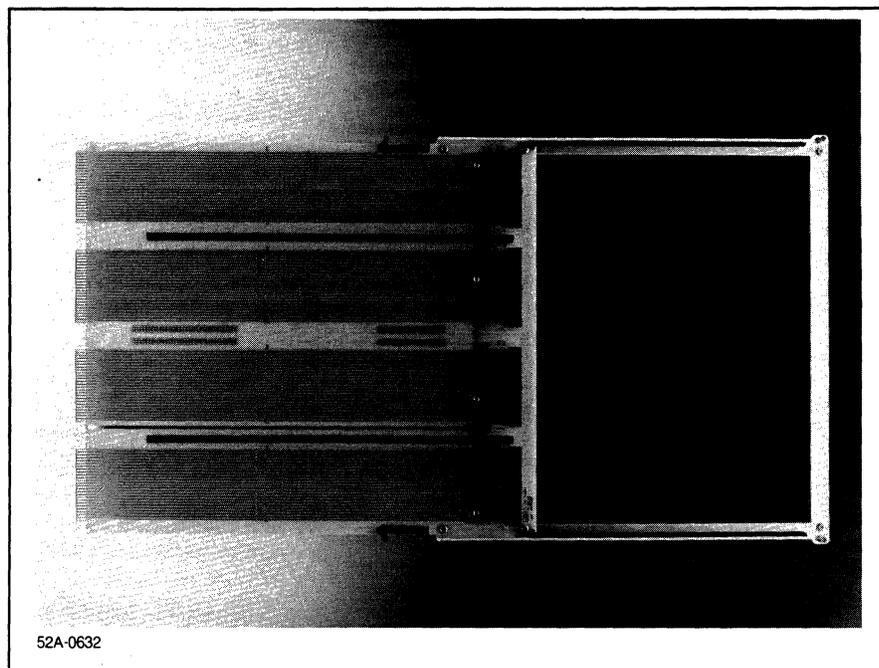

Figure 7-5. Extender card
- 3) Extender card, part number 25591-60001, as shown in figure 7-5.